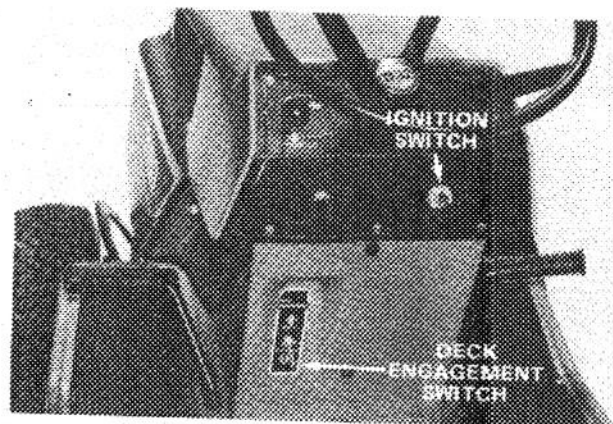
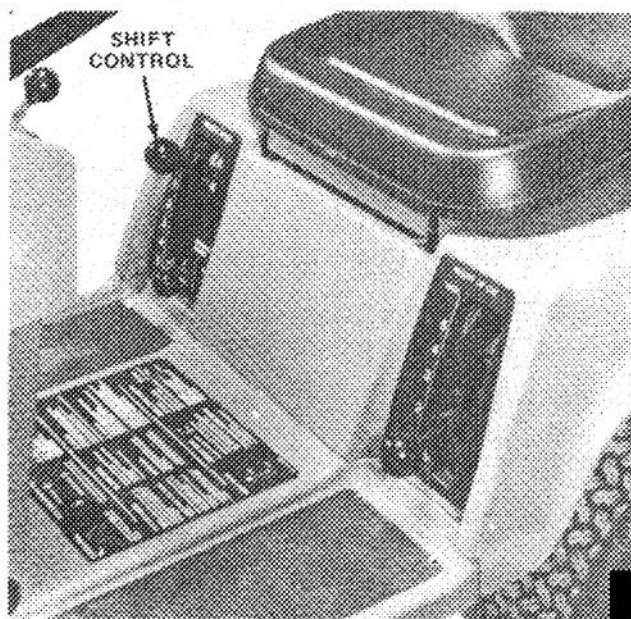

Figure 46
Figure 47
2. Move deck engagement switch (Fig. 46) to the ENGAGE position. Rotate the ignition key to START. Engine should not crank. If engine cranks, the interlock system is malfunctioning and it must be repaired by an Authorized TORO Service Dealer. If engine does not crank, proceed to step 3.
3. Move deck engagement switch to DISENGAGE position (Fig. 46), push clutch in and place shift control into one of the gear selections (Fig. 47). Rotate the ignition key to START. Engine should not crank; but if it does, the interlock system is malfunctioning and it must be repaired by an Authorized TORO Service Dealer. If engine does not crank, proceed to step 4.
4. Move shift control (Fig. 47) into neutral and deck engagement switch (Fig. 46) to DISENGAGE position. Engage the parking brake to prevent movement of the tractor. Rotate ignition key to START position and start engine. Place the deck engagement switch in ENGAGE position and carefully raise off the seat: the engine should stop running. If engine does not stop running, shut engine off and have interlock system repaired by an Authorized TORO Service Dealer. If engine shuts off when you raised off seat, the interlock system is functioning correctly.